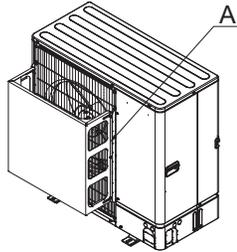

Fig. 2-4
(2) Install an air guide if the unit is installed in a location where strong winds from a typhoon, etc. may directly enter the air outlet. (Fig. 2-4)